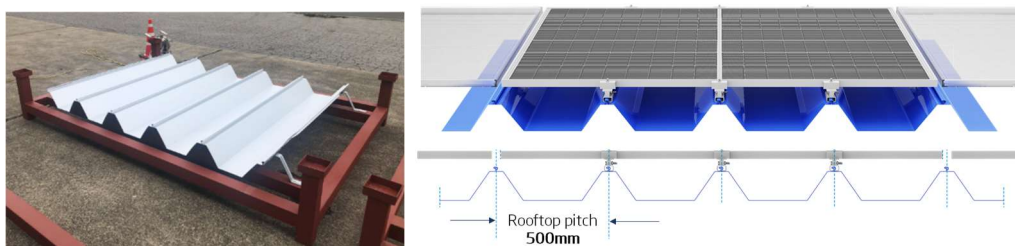

Figure 4: Typical Shell roof of Japan installation
- The following installation conditions and loads are only applied to typical shell roof in Japan. The pitch distance is 500mm as shown in figure 4.